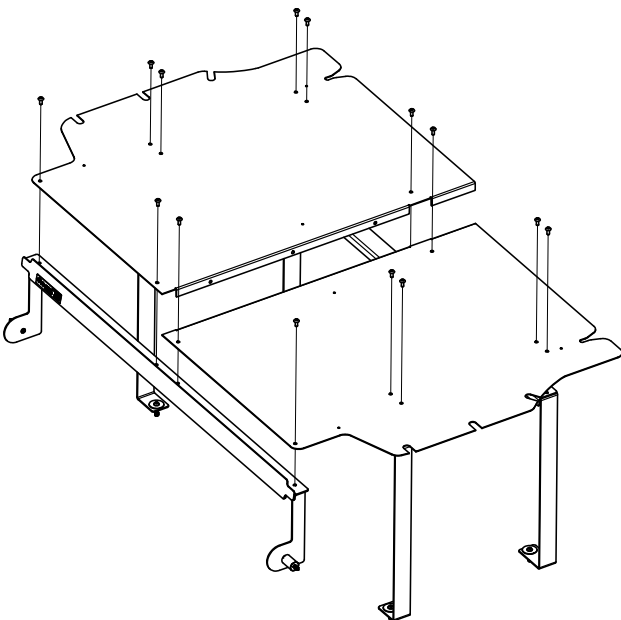

Figure 3
- A. Place the 3CSC5716-01 cargo shelf into place over the brackets and cross members on the driver side. adjust the shelf so that the pre-drilled holes line up with the holes in the bracket and cross members that were aligned in the previous steps. Then using 3X03 bolts secure the shelf in place threading the bolts into weldnuts & 3X16 nuts on the brackets using the aligned hole locations. Repeat on the passenger side using the 3CSC5716-02 cargo shelf. See Figure 3 & 4.